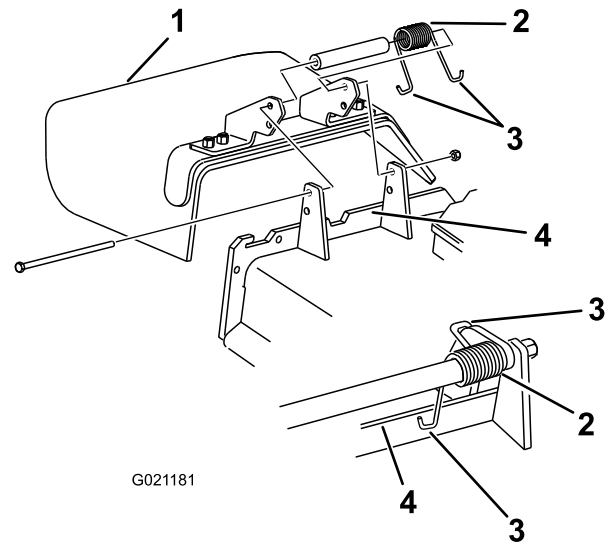

Figure 4
1. Make sure that 1 end of the spring is installed behind the deck edge before installing the bolt as shown in Figure 4.
2. Place the other end of the spring around grass deflector (Figure 4).